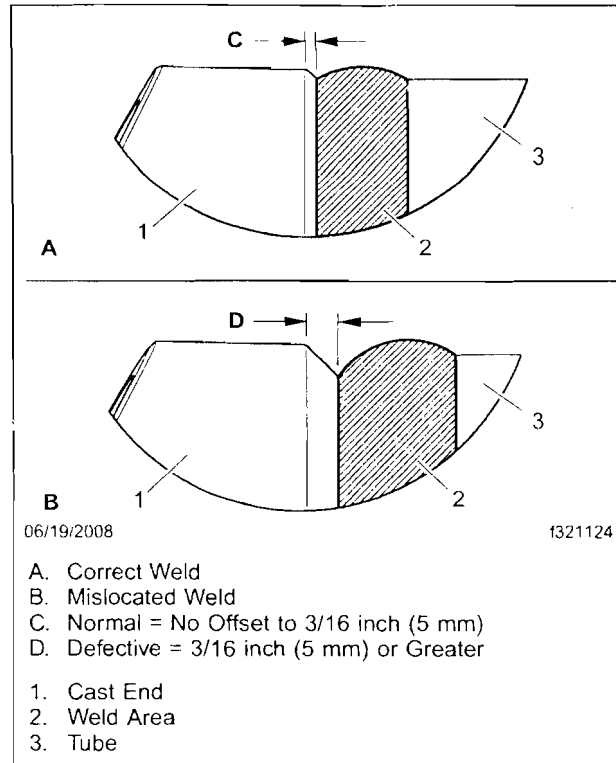

Fig. 4, Mislocated Weld Inspecting
**IMPORTANT:** Do not attempt to repair mislocated welds. See **Fig. 4**, for an example of correctly located and mislocated welds.